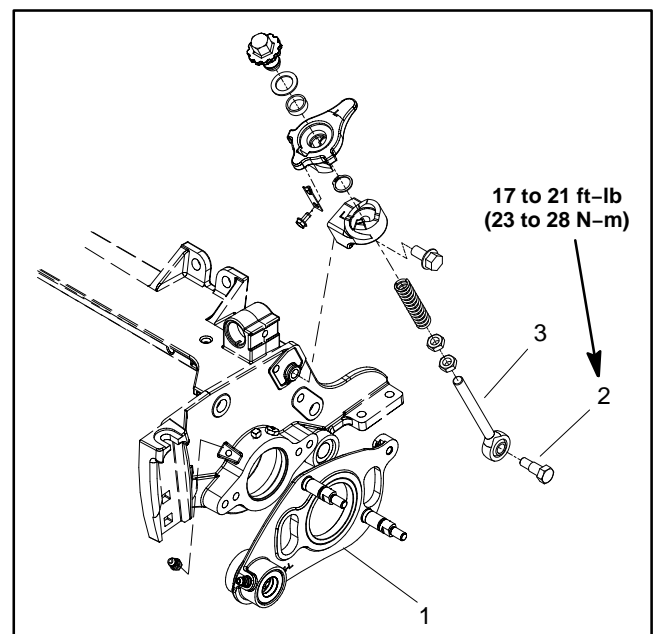

Figure 6
C. Secure groomer components to cutting unit side plate with two (2) socket head screws (item 7).
B. Position pivot hub and idler plate assembly to cutting unit side plate and secure with two (2) socket head screws (item 7).
C. Connect extension spring (item 14) to stud on groomer plate. Make sure that spring is in the stud groove and that spring hook is positioned toward the drive pulley.
D. Secure quick-up ball joint rod to drive side groomer plate with shoulder bolt (Fig. 6). Torque shoulder bolt from **17 to 21 ft-lb (23 to 28 N-m)**.
E. Slide pulley spacer (item 2) and washer (item 3) onto groomer shaft.
F. Apply antiseize lubricant to square keys (item 4) that locate drive and driven pulleys. Position keys into shaft slots.